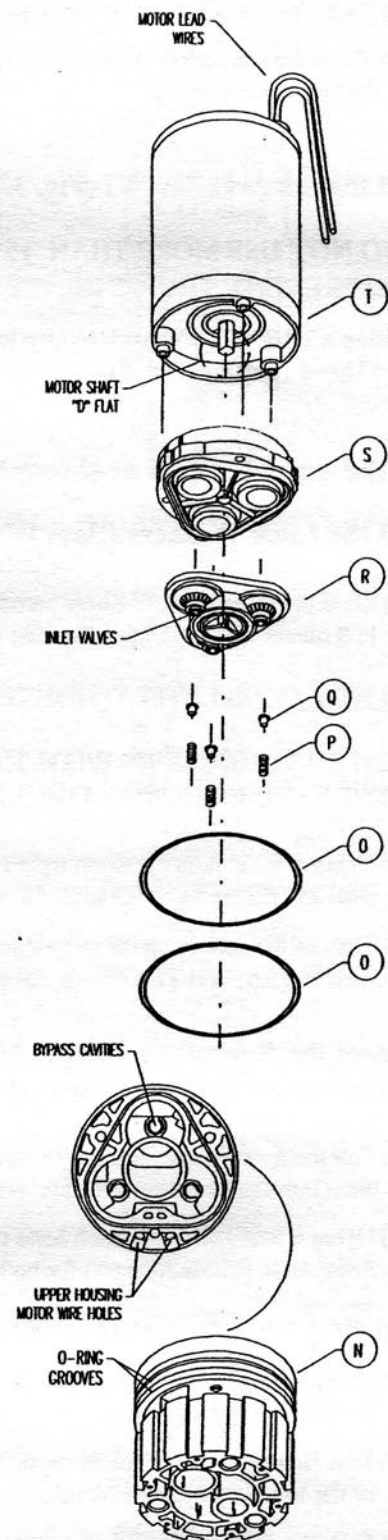

FIGURE 11
#### 1) Install the Upper Housing Large O-Rings (Part O) (Fig. 11).
#### 2) Install the Bypass Assembly (Parts P and Q) (Fig. 11).
#### 3) Install the Valve Housing Assembly (Parts R) (Fig. 11).
#### 4) Install the Lower Housing Assembly (Part S) (Fig. 11).
- a) Place the Lower Housing Assembly onto the Valve Housing Assembly (Part R) (Fig. 11).
#### 5) Install the Motor (Part T) (Fig. 11).